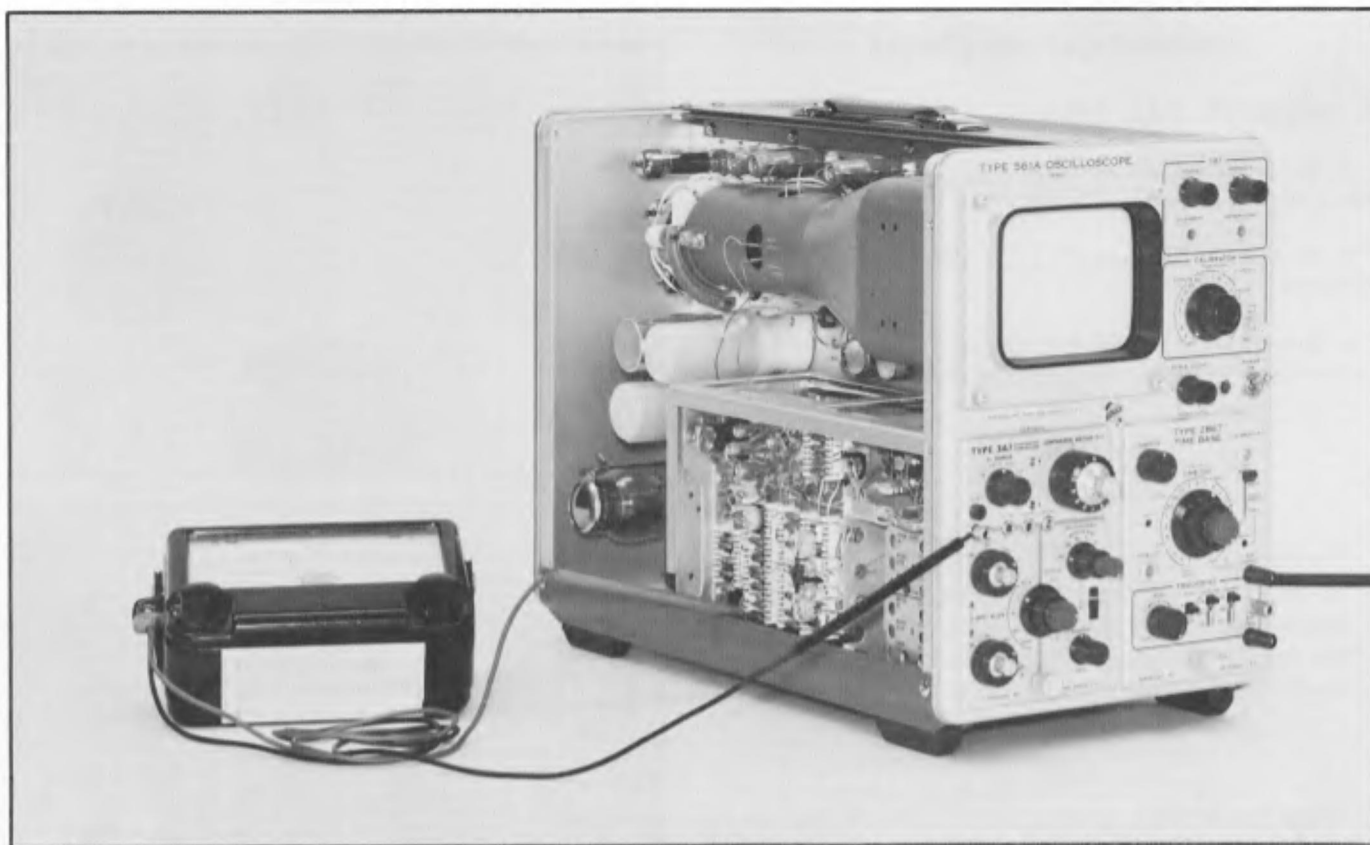
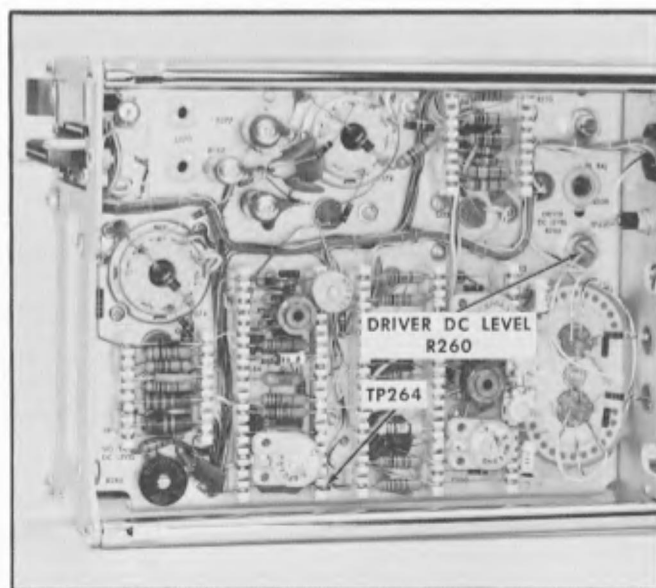

Fig. 5-6. Setup at completion of step 2a.
Fig. 5-7. Step 2 test point and adjustment locations.
①
a. Connect a dc voltmeter between TP264 and ground. Fig. 5-6 shows the complete setup and Fig. 5-7 shows the test point location.
b. Adjust the DRIVER DC LEVEL control R260 (see Fig. 5-7) to obtain a reading of exactly +59 volts on the voltmeter.
- Connect a dc voltmeter between TP294 (see Fig. 5-10) and ground. The setup is similar to that shown in Fig. 5-6.